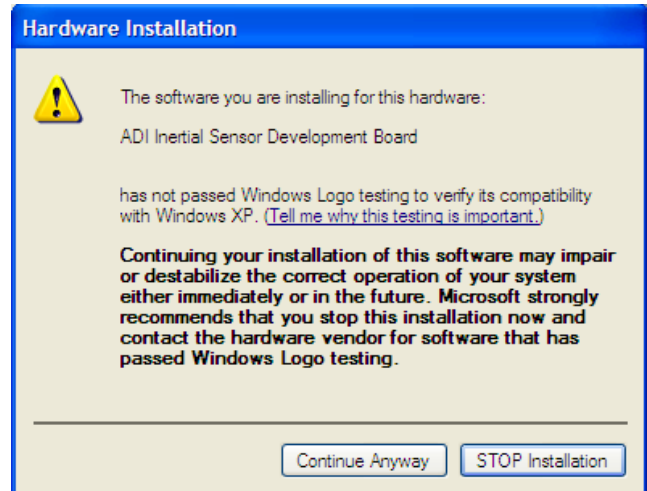

Figure 10. Continue Installation
11. Select **Continue Anyway** when you get the warning as Figure 10 shows.